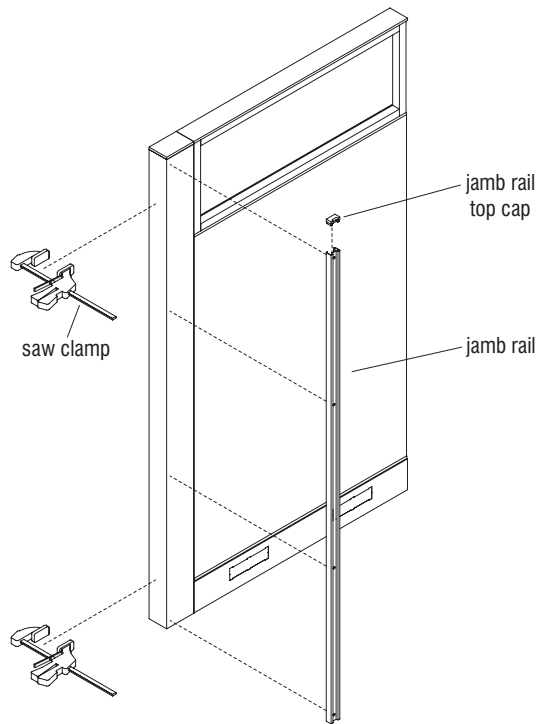

Figure 18
2. Take a jamb rail in hand and install a jamb rail top cap to it. Place the jamb rail with cap against the dead end jamb post where the rolling door will close to it. Use two clamps to position the jamb rail straight and flush with the front edge as illustrated. The jamb rail top cap should also be flush at the top with the jamb post top cap. (Figure 18).